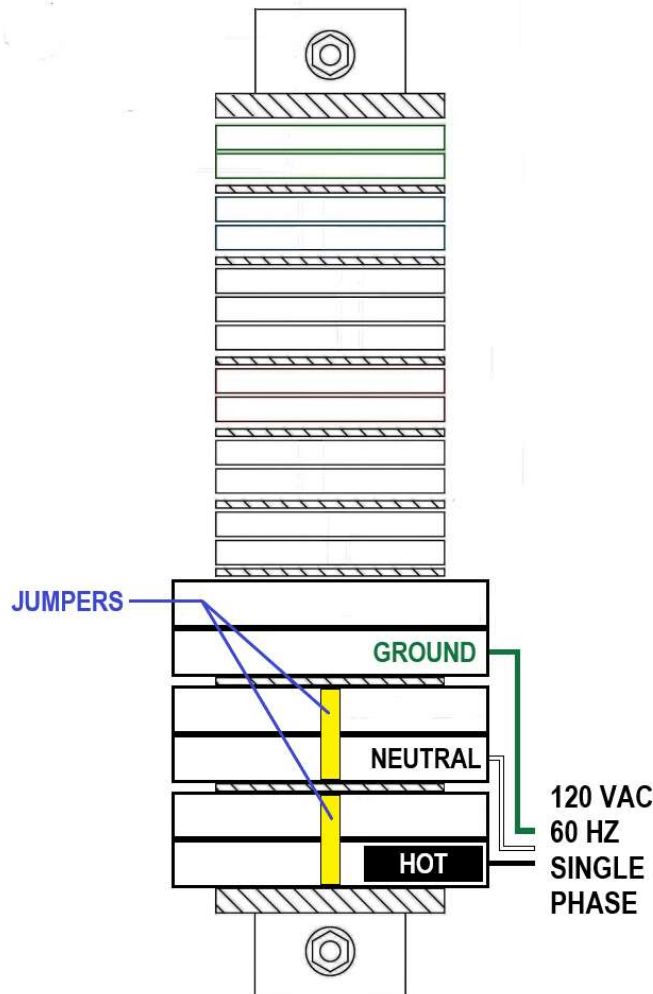

Figure 4 - Wiring Diagram
3.2.4.4 Power Connection - Assemblies With Control Panel - One (1) Power Circuit.
- Refer to **Figure 4**.